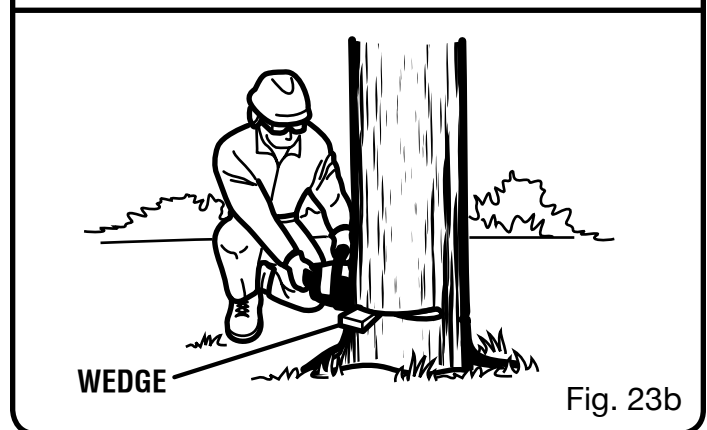

Fig. 23b
Always use the proper cutting stance described in this section. Never kneel when using the chain saw except when felling a tree as shown in figure 23b. Kneeling could result in loss of stability and control of the saw resulting in serious personal injury.
- On large diameter trees, stop the back cut before it is deep enough for the tree to either fall or settle back on the stump. Then insert soft wooden or plastic wedges into the cut so they do not touch the chain. The wedges can be driven in, little by little, to help jack the tree over. See *Figure 23b*.